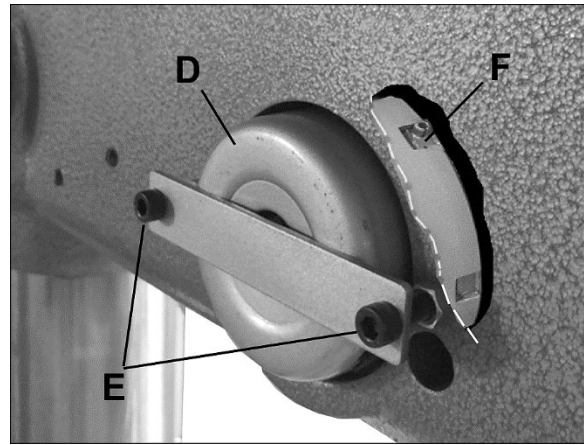

Figure 8-3
1. Do NOT remove spring cap (D, Figure 8-3).
2. Loosen screws (E) just enough to rotate spring cap past pin (F) and engage pin into next notch.
4. Re-tighten both screws (E).